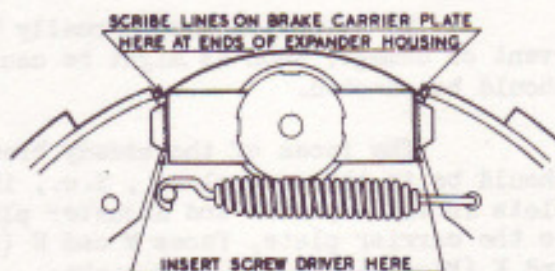

FIG. 19. CHECKING FLOAT OF EXPANDER UNITS.
- (a) Remove the brake drum and mark the position of the expander unit relative to the carrier plate, by scribing lines at the ends of the expander housing, or by any other convenient method. See Fig.19.